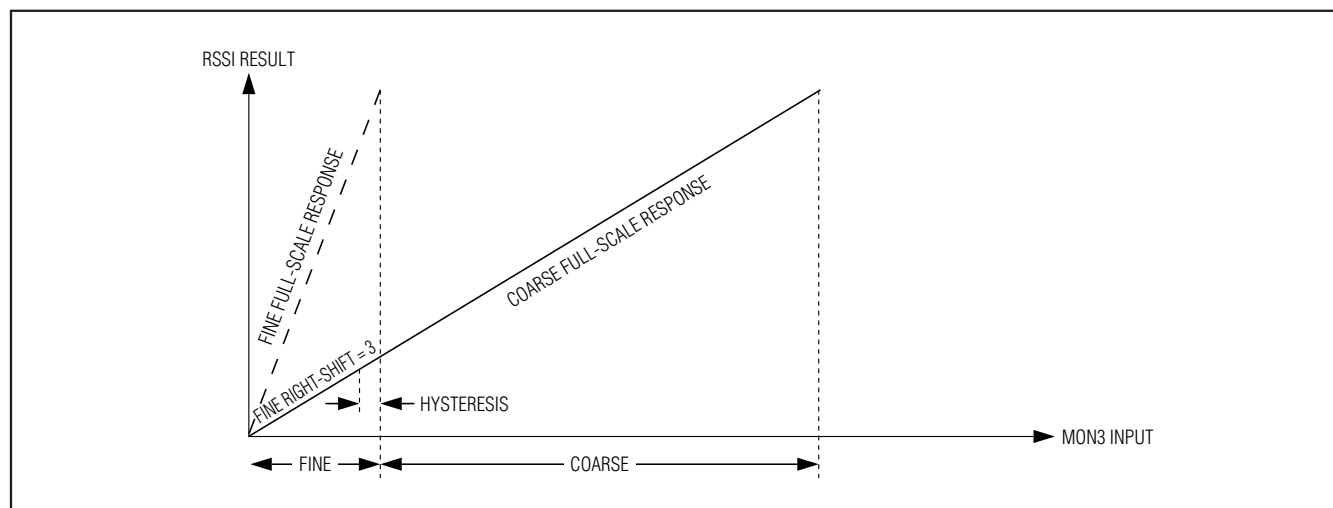

Figure 8. RSSI with Crossover Disabled
- **Crossover Disabled:** The crossover-disabled mode is intended for systems with a linear relationship between the MON3 input and the desired ADC result. Hysteresis allows for a nonjittery response when the input is at the crossover boundary of the fine and coarse DAC. In a nonlinear system, the hysteresis could cause significant errors in the ADC result. See Figure 8.
The DS1873 contains two power-on reset (POR) levels. The lower level is a digital POR (POD) and the higher level is an analog POR (POA). At startup, before the supply voltage rises above POA, the outputs are disabled, all SRAM locations are set to their defaults, shadowed EEPROM (SEE) locations are zero, and all analog circuitry is disabled. When V_{CC} reaches POA, the SEE is recalled, and the analog circuitry is enabled. While V_{CC} remains above POA, the device is in its normal operating state, and it responds based on its non-volatile configuration. If during operation V_{CC} falls below POA, but is still above POD, then the SRAM retains the SEE settings from the first SEE recall, but the device analog is shut down and the outputs disabled. If the supply voltage recovers back above POA, then the device immediately resumes normal operation. If the supply voltage falls below POD, then the device SRAM is placed in its default state and another SEE recall is required to reload the nonvolatile settings. The EEPROM recall occurs the next time V_{CC} exceeds POA. Figure 8 shows the sequence of events as the voltage varies.